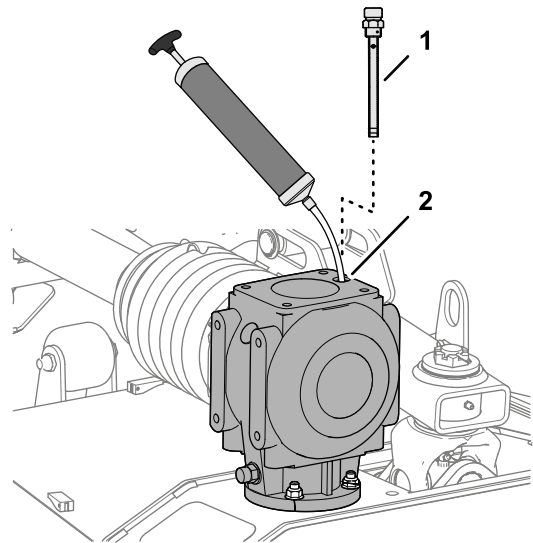

Figure 62
1. Remove the dipstick from the top of the gearbox (Figure 62).
2. Through the dipstick port, use a suction pump to remove the fluid from the gearbox (Figure 62).